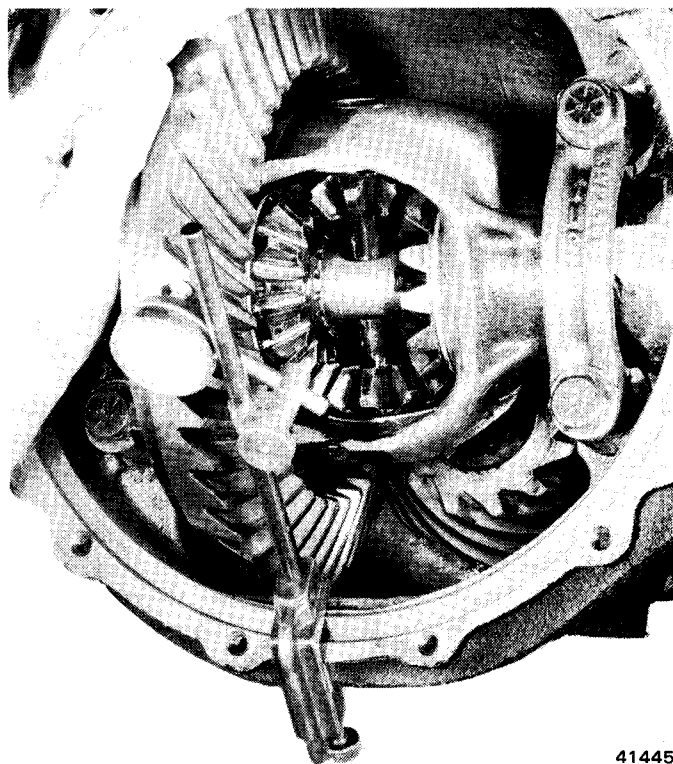

Fig. 10-47 Checking Backlash
- (1) Install differential assembly in housing using shims previously selected to remove sideplay. Tighten bearing cap bolts to 87 foot-pounds torque. Attach dial indicator to housing with button contacting drive side of a tooth on ring gear and at right angle to it (fig. 10-47).